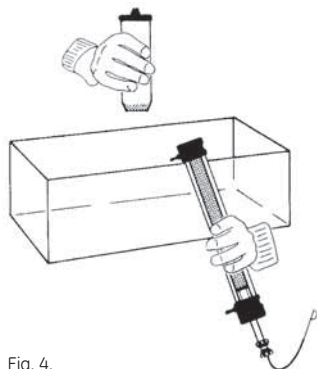

Fig. 4.
9. Stop the pump and close the outlet. Remove the packing reservoir. This is most easily done by first removing the column from the stand and then unscrewing the reservoir over a sink (Fig. 4). For larger columns it may be easier to use a siphon.